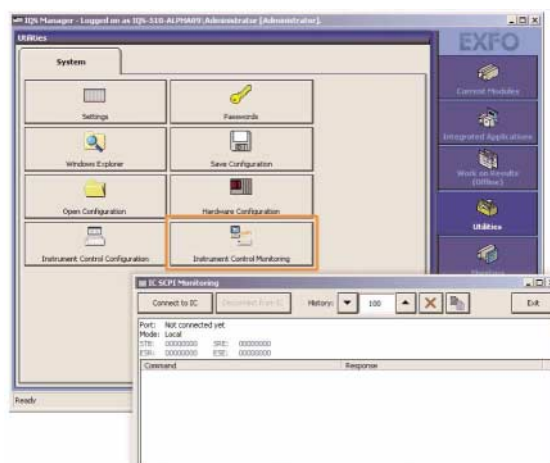

Figure 4a. Opening the Instrument Control Monitoring window allows you to track commands, responses and error messages in real time
5. Once this is done, we recommend launching the Instrument Control Monitoring application, which can also be accessed from the Utilities tab (see Figures 4a and 4b). This allows you to track commands, system responses, as well as error messages, all in real time.